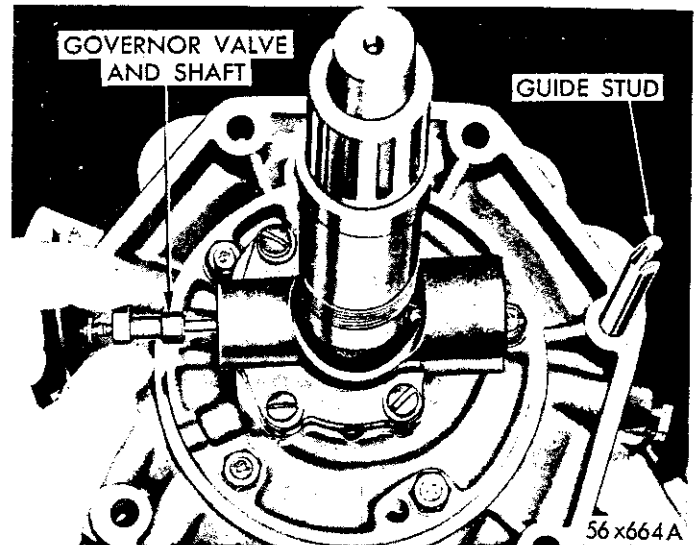

Fig. 29—Removal and Installation of Governor Valve Shaft and Valve
(1) Remove extension assembly as described in previous section.
(2) Remove governor valve shaft snap ring from the weight end of the shaft and remove the shaft and valve (Fig. 29).
(3) Using Tool C-3229, remove the governor weight assembly snap ring (large) and remove governor weight. The primary cause of governor operating failures is due to improper operation of the